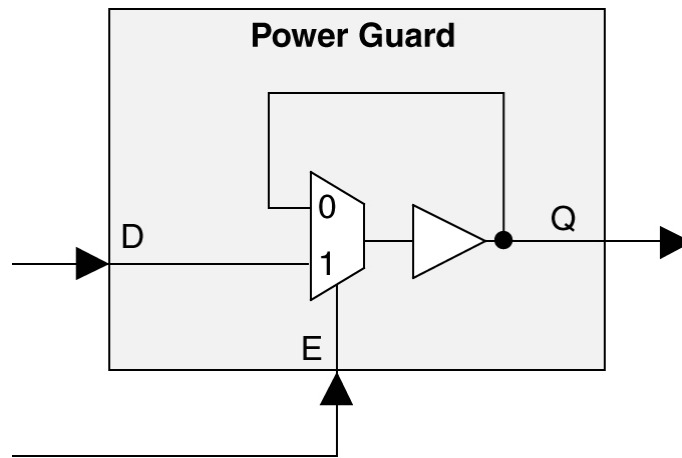

Figure 1. Power Guard Signals
Disconnecting the CPLD array logic from external input signal changes is an excellent way to reduce power and increase battery life. This feature, called Power Guard in the ispMACH 4000ZE family, provides current levels close to standby current in the system. As shown in Figure 1, Power Guard consists of an enabling multiplexer between an I/O pin and input buffer, and its associated circuitry inside the device. If the enable signal (E) is held low, all inputs (D) can be optionally isolated (guarded), such that, if any of these were toggled, it would not cause any toggle on internal pins (Q). In other words, a toggling I/O pin will not cause any internal dynamic power consumption.